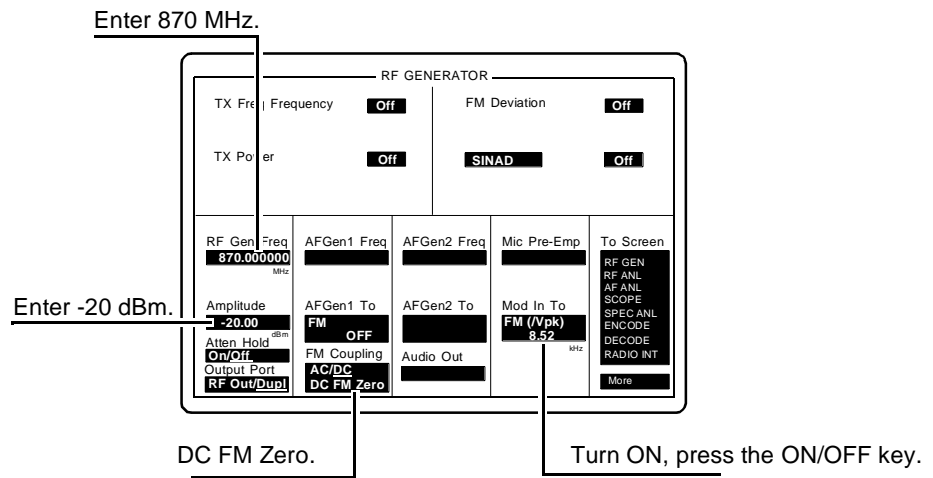

Figure 70
- a. Select **RF GEN** from the **To Screen** menu. The RF GENERATOR screen appears, see figure 70.